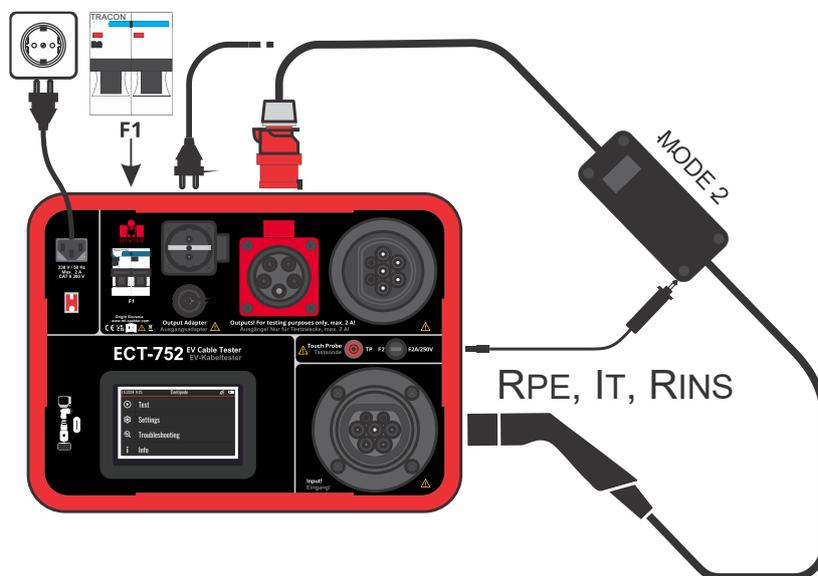
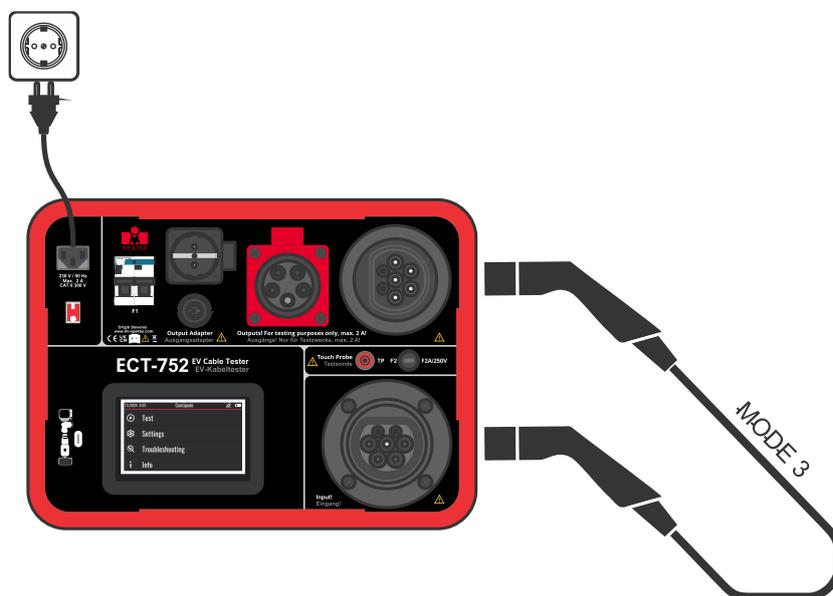

Figure 44: Connection of the ECT-752 to mains and Mode 2 Cable to ECT-752
Figure 45: Connection of the ECT-752 to mains and Mode 3 Cable to ECT-752
- Plug the ECT-752 to mains supply and make sure fuse F1 is ON, see the Figure 44.
- Connect the Cable to be tested to ECT-752 as shown on one of the Figure 44 and Figure 45.